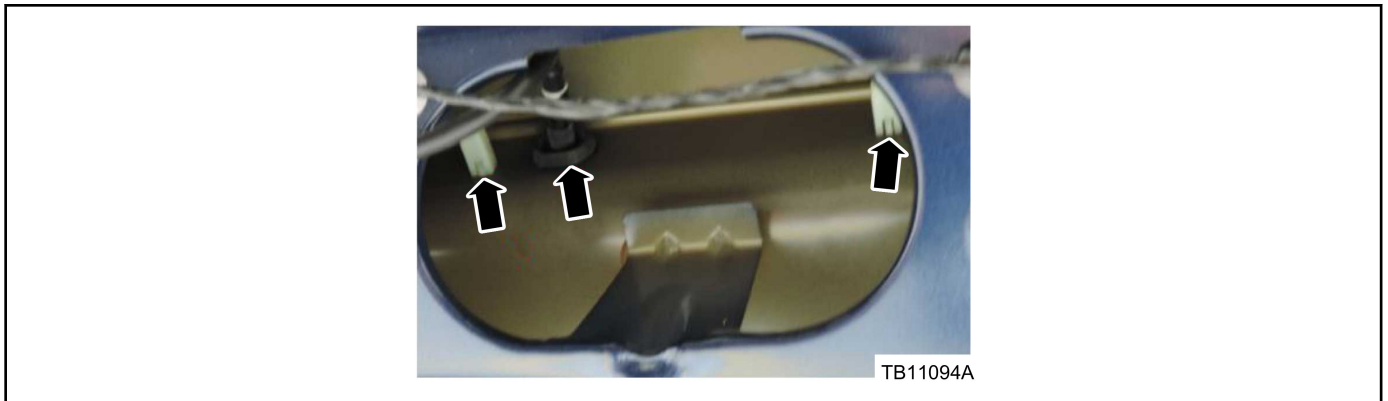

Figure 26 - Article 17-0044
- c. Rear applique attachments, center. (Figure 26)